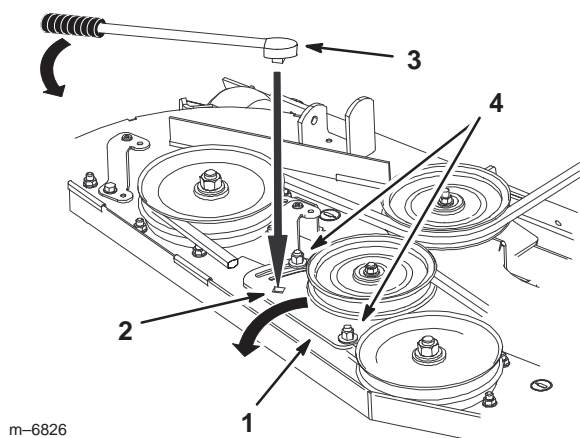

Figure 75
5. Loosen the nut securing the idler plate and move the idler plate to relieve the belt tension on the idler pulley, then remove the worn mower belt (Fig. 75).
5. If adjustment is required, loosen the mower idler plate and adjust it (Fig. 75).
6. Insert a ratchet or breaker bar into the square hole in the mower idler plate to adjust the tension (Fig. 75).
7. To increase belt tension, rotate the mower idler plate until resistance is felt and rotation stops. Do not go past when it stops (Fig. 75).
8. Tighten the idler plate bolts (Fig. 75).
10. Adjust the belt tension and the idler plate, if necessary, and tighten all hardware securely (Fig. 75).